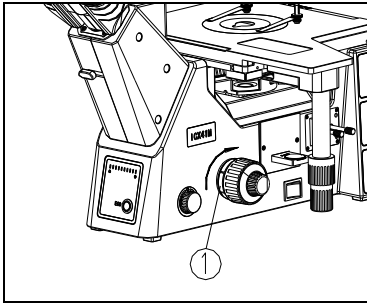

Fig. 17
If the handle is very heavy when focusing or the specimen leave the focus plane after focusing or the stage declines itself, you can solve the problem by adjusting the tension adjustment ring ①. (Fig. 17)